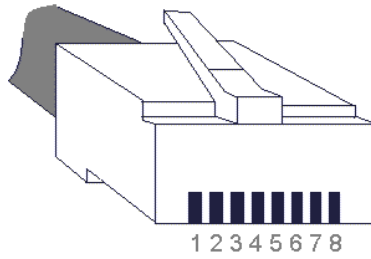
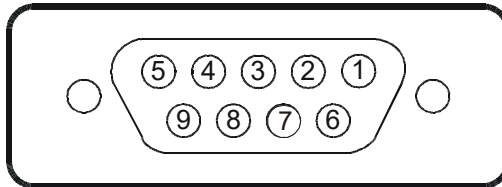
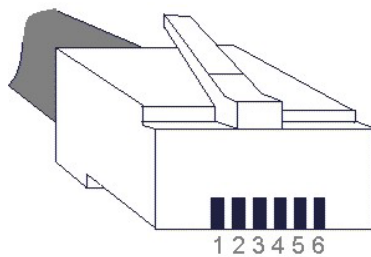

Figure 6 - WS2200 RJ45 Craft Port Connector
Figure 7 - DB9F Connector
Figure 8 - WS2200 RJ11 Serial Connector
The CRAFT Port on the WS2200 uses a standard RJ45 Connector, shown in Figure 6. A typical DB9 serial port on a PC is shown in Figure 7. Table 2 shows the pin outs for a cable connecting the WS2200 to a PC Serial Port.
- The SERIAL Port on the WS2200 uses a standard RJ11 Connector, shown in Figure 8. A typical DB9 serial port on a PC is shown in Figure 7. Table 4 shows the pin outs for a cable connecting the WS2200 to an RS-232 serial port. Table 5 shows the pin outs for a cable connecting the WS2200 to an RS-485 serial port.